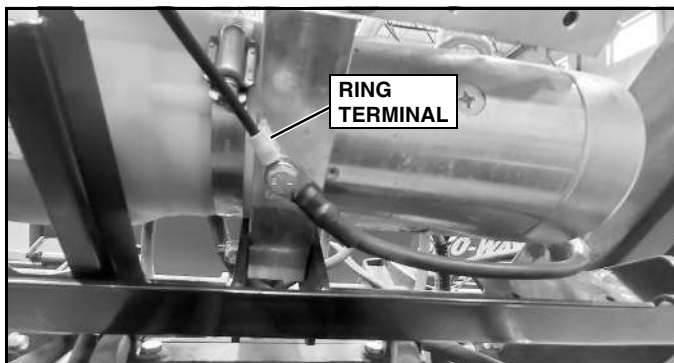

Figure 1-1
3. Remove the ring terminal for the Black Ground wire of the pump harness from the pump block. Tighten hardware once removed. (See Figure 1-1)